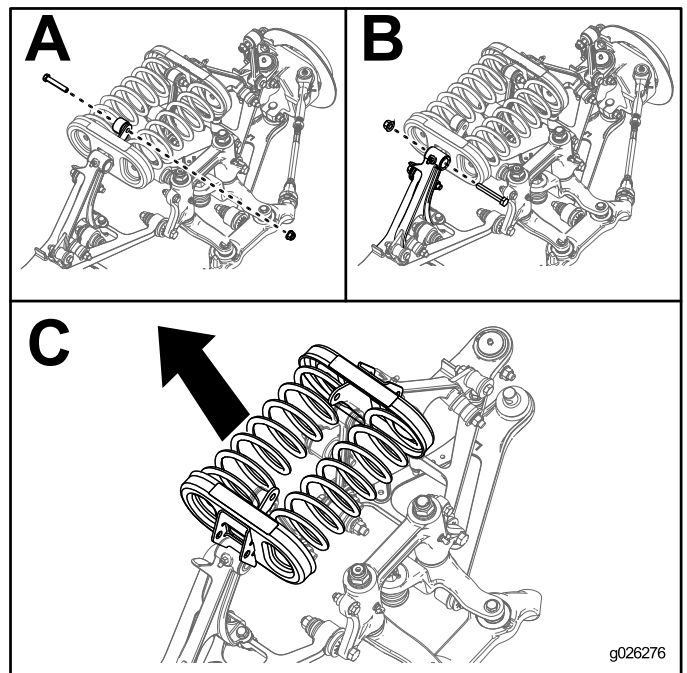

Figure 20
5. Remove the bolts and nuts from the end of each stabilizer link as shown in Figure 20; Box A.
6. Remove the bolts and nuts from the control arm that is securing each spring cradle as shown in Figure 20; Box B.
7. Remove the spring cradles and springs from the machine as shown in Figure 20; Box C.